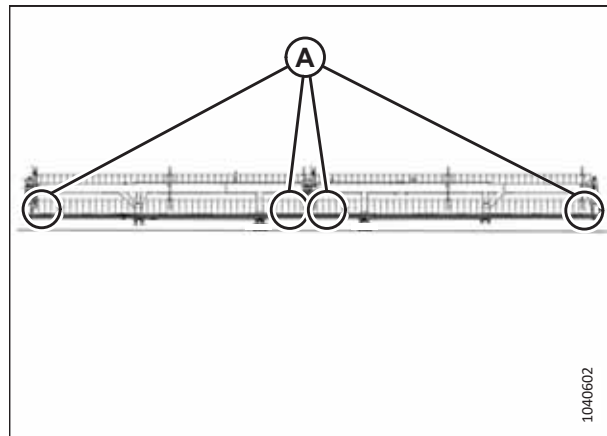

Figure 6.29: Double-Reel Header Measurement Locations
- Figure 6.29, page 226 – double-reel headers